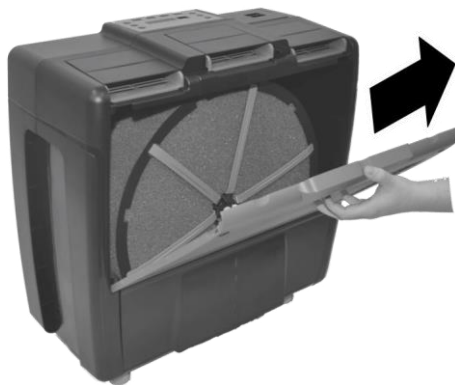

Fig. 14: Lifting off the outlet grille
2. → Lift off the outlet grille outwards (Fig. 14).